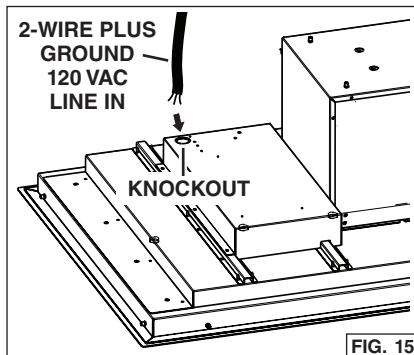

FIG. 15
1. Run 2-wire plus ground, 120 VAC electrical power cable to the $\frac{3}{4}$ " knockout located on the back of the hood. Fig. 15.